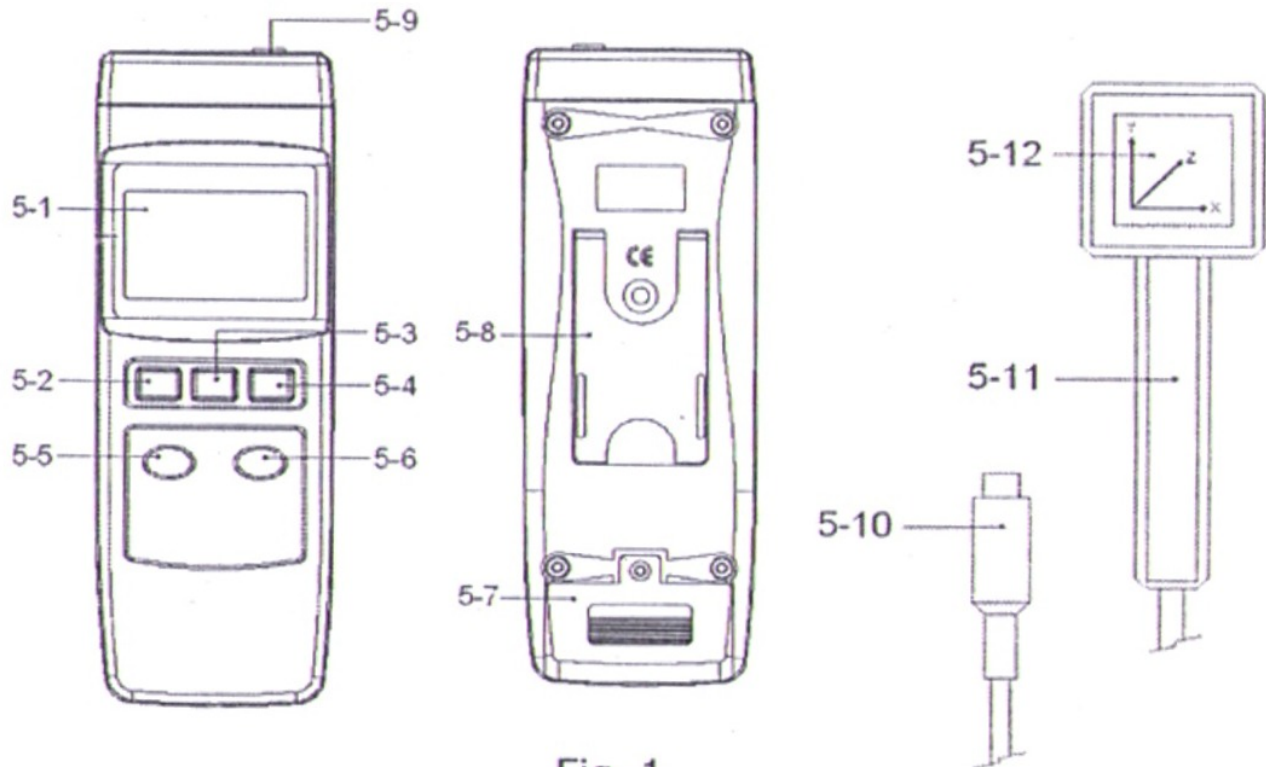

Fig. 1
- 1) Power ON the meter by pushing the " Power button " (5-2, Fig. 1).
- 2) Select the desired unit (micro Tesla or mili-Gauss) by pushing the " Unit button " (5-5, Fig. 1).
- 3) Use the " Range button " (5-6, Fig. 1) to select the suitable range. For the unknown EMF measurement, start with the highest range and keep decreasing until the higher resolution's reading is obtained.
- 4) Hold the " Probe handle " (5-11, Fig. 1), move the " Probe sensing head " (5-12, Fig. 1) slowly towards to the position of the object that is under measurement.
- 5) Use the " XYZ axis select button " (5-4, Fig. 1) to select the EMF value in the X, Y or Z axis.
- 6) During the measurement, if push the " Hold button " (5-3, Fig. 1) will freeze the display value. Push the " Hold button " again will release the Hold function.
- 2) Slide the " Battery Cover " (5-7, Fig. 1) away from the instrument and remove the battery.